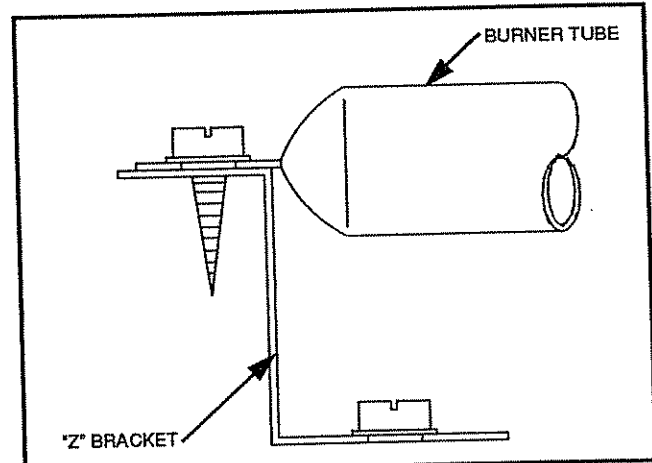

Fig. 39. Burner tube support "Z" bracket.
6). Bend left and right burner support tabs over burner tube and fasten burner to burner support "Z" bracket with screw. (See Fig. 39.)